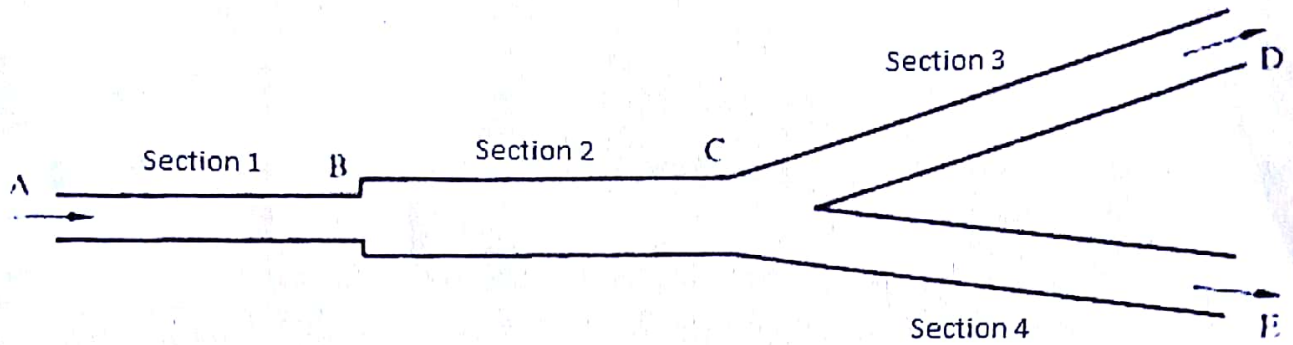

Fig. Q 4 (c)
- (c) Water flows from point A to points D and E as shown in Fig. Q 4 (c). Some of the flow parameters are known and shown in Table Q 4 (c). Calculate the values of discharge and unknown velocities throughout the pipe section. 5 marks